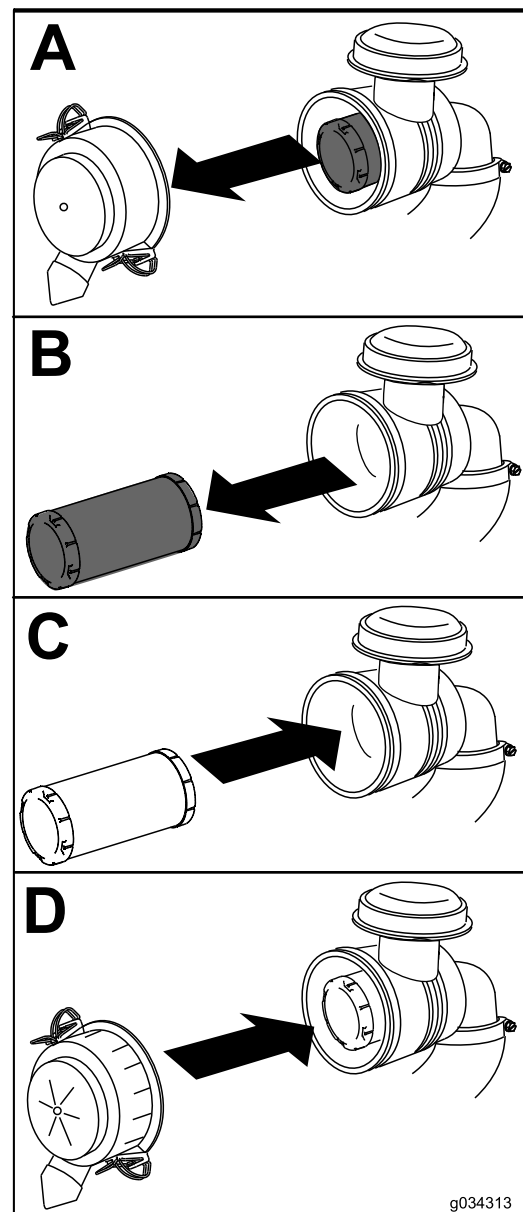

Figure 37
1. Gently slide the air-cleaner element out of the air-cleaner body (Figure 37).
4. Install the air-cleaner cover with the side indicated as UP facing upward and secure the latches (Figure 37).